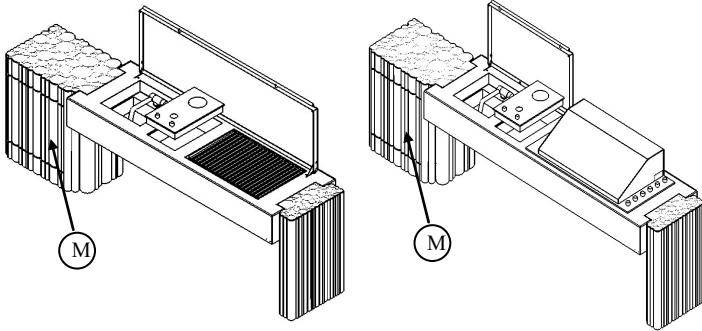

Figure 12—Gas Hob installation complete.
Regarding the gas supply, the left side door (M) can be used to insert the gas canister if the gas to be used is from canister (figure 12). In case the gas to be used is natural gas or the connection is made behind the equipment it may be performed through the hole (N).